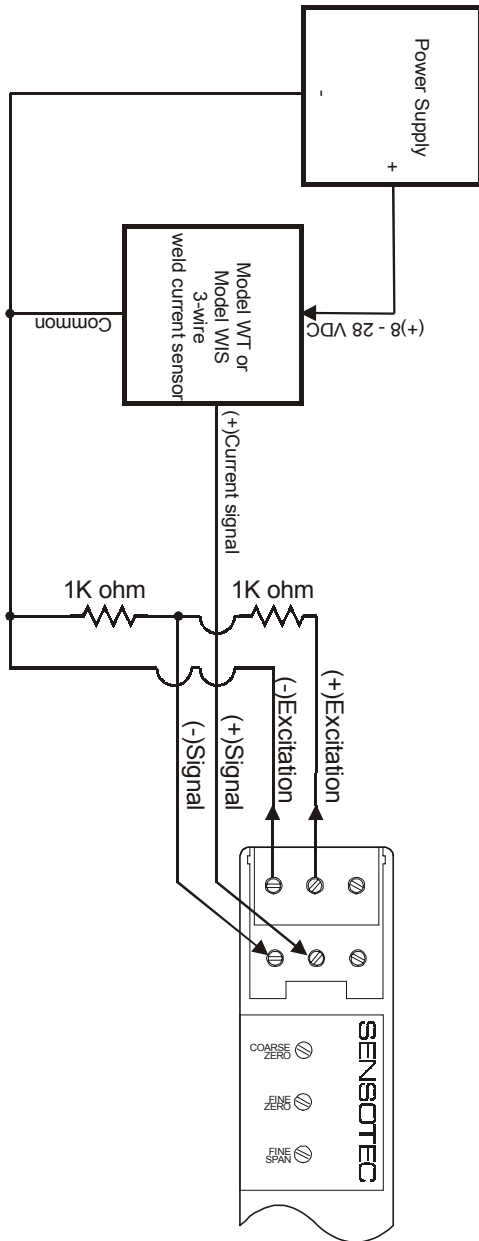

Figure 2-1: Wiring to Model WT or WIS Weld Current Sensor
Refer to Figure 2-1: "Wiring to Model WT or WIS Weld Current Sensor" when wiring to Sensotec Model WT or Model WIS sensors. Excitation voltage should be set to 5.4 VDC for these applications.
2. Set the EXCITATION SELECT JUMPER as shown in Figure 2-1. This requires removing the circuit board from the enclosure. The Amplifier usually is set at the factory for 9 VDC excitation.
4. Set the COARSE GAIN SWITCH (See Fig.2-1 for location of switch) to the nearest "signal level" which matches the full-scale output of the transducer.